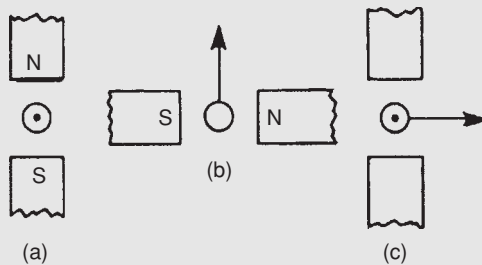
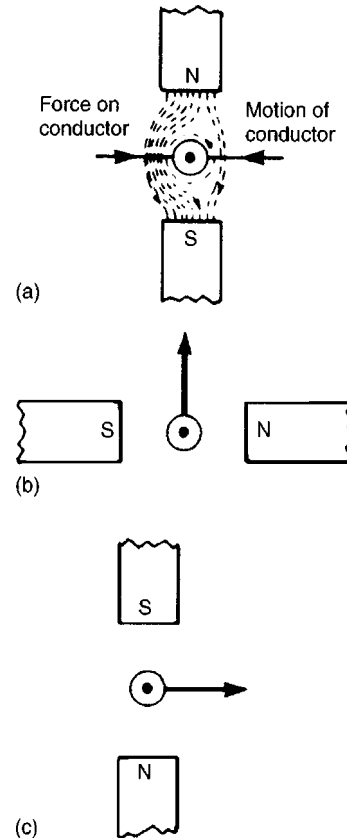

Figure 9.4
Figure 9.5
Problem 5. The diagrams shown in Fig. 9.4 represents the generation of e.m.f.'s. Determine (i) the direction in which the conductor has to be moved in Fig. 9.4(a), (ii) the direction of the induced e.m.f. in Fig. 9.4(b), (iii) the polarity of the magnetic system in Fig. 9.4(c)
- (i) Using Lenz's law: The field due to the magnet and the field due to the current-carrying conductor are shown in Fig. 9.5(a) and are seen to reinforce to the left of the conductor. Hence the force on the conductor is to the right. However Lenz's law states that the direction of the induced e.m.f. is always such as to oppose the effect producing it. **Thus the conductor will have to be moved to the left.**
i.e. **towards the viewer or out of the paper**, as shown in Fig. 9.5(b)
- (iii) The polarity of the magnetic system of Fig. 9.4(c) is shown in Fig. 9.5(c) and is obtained using Fleming's right-hand rule.